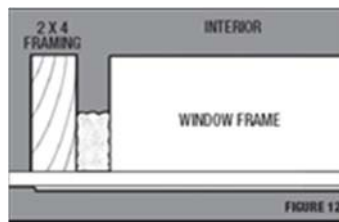

Figure 12
- 6.5.1 Apply foam to a depth of approximately $\frac{1}{2}$ of the depth of the cavity between the window frame and the rough opening (Figure 12).